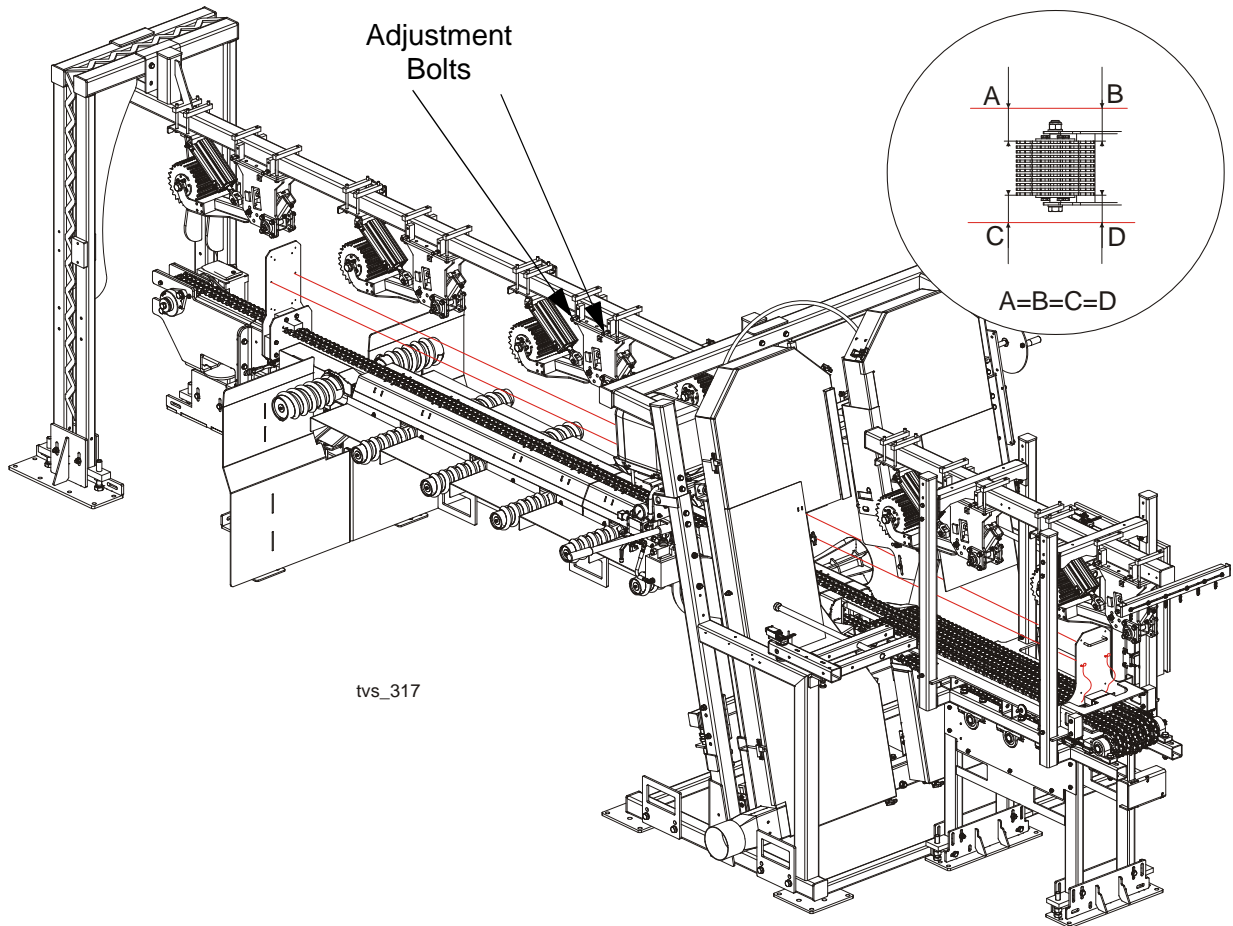

**FIG. 5-28**
**See Figure 5-28.** Set the saw heads width to about 140mm (5.51"). Measure the distance from the blade on the left saw head to the left rope. Next, measure the distance from the blade on the right saw head to the right rope. The measured distances should be the same. If they are not, use the nuts on the saw head width adjustment screw and two #46